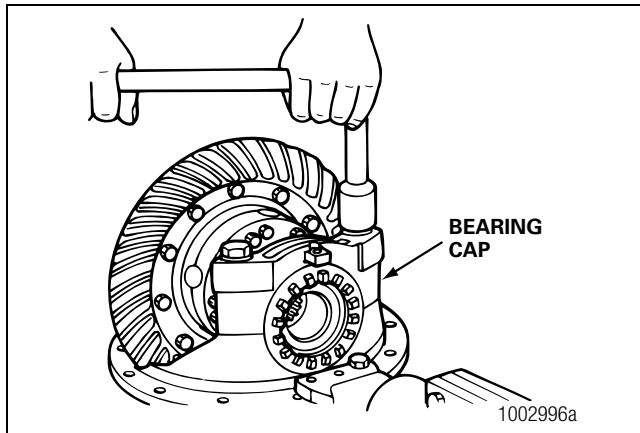

Figure 3.12
7. Remove the two capscrews and washers that secure the two bearing caps onto the carrier. Figure 3.12.